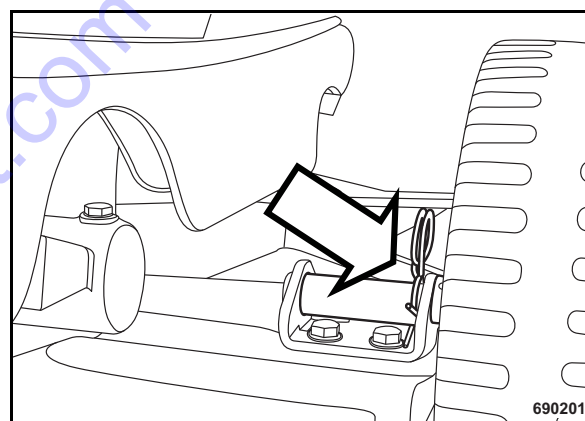

Fig. 35
- In the bracket secure the transport wheel with the spring cotter (Fig. 35).